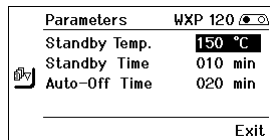

Fig. 10
3. Confirm the selection with the Enter key (**8**). The display changes over to Selection/Entry mode (see Fig. 10).